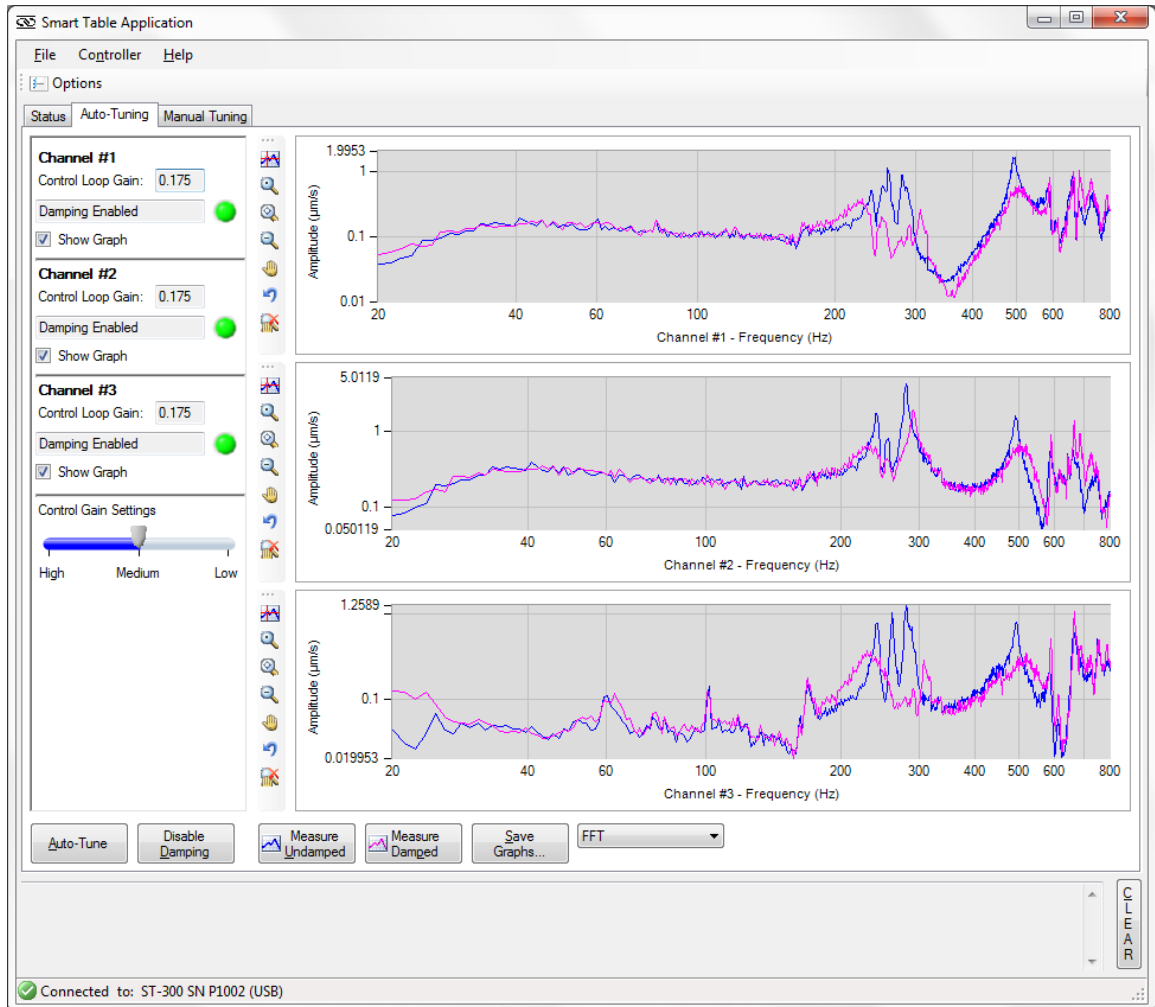

Figure 28 FFT Mode
**Measure Damped Button.** Click the “Measure Damped” button to record vibration level with damping enabled (see Figure 28). The software will enable damping on all channels and measure vibration levels.